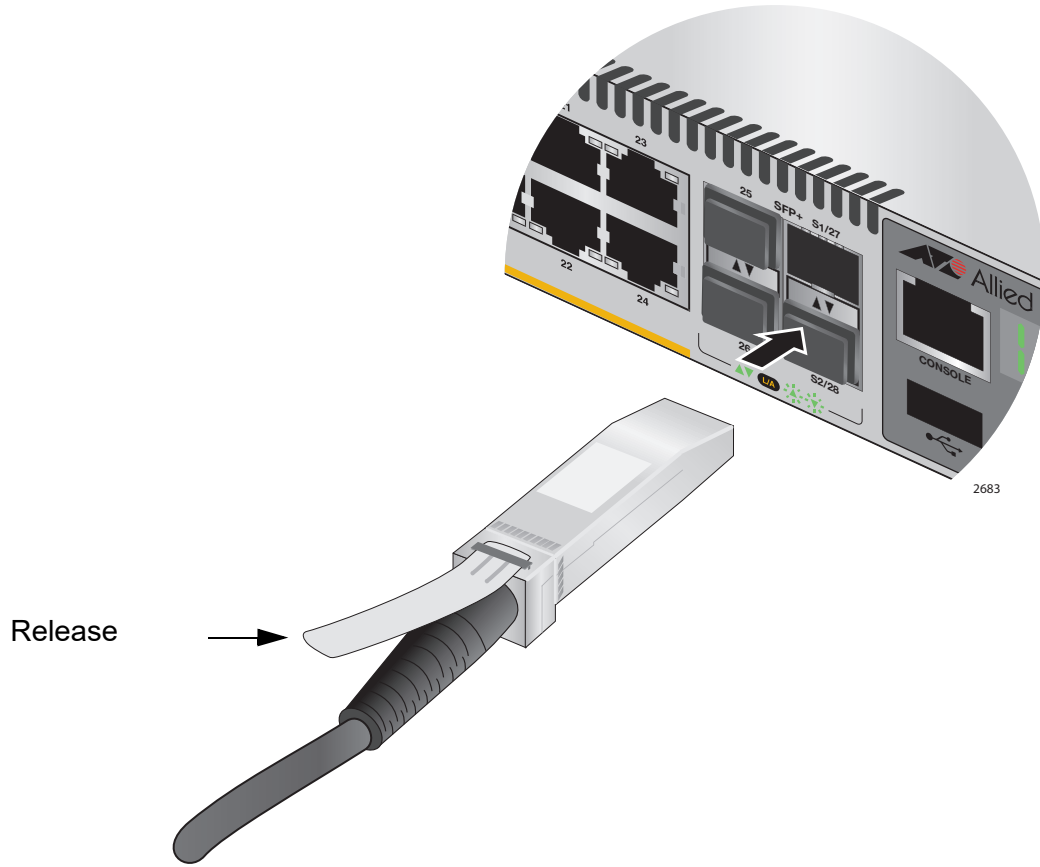

Figure 57. Installing a Direct Attach Cable in Slot S1
4. Position the transceiver with the release tab on top and slide the transceiver into the slot, as shown in Figure 57 on page 96.